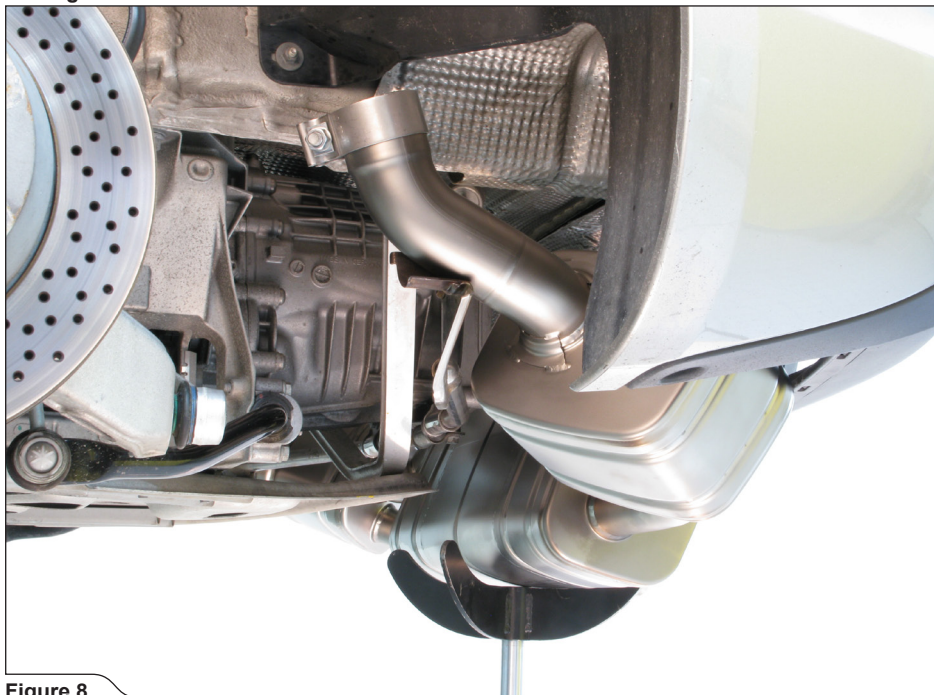

Figure 8
3. Carefully bring the muffler near it's final position on the vehicle, as shown (Figure 8).